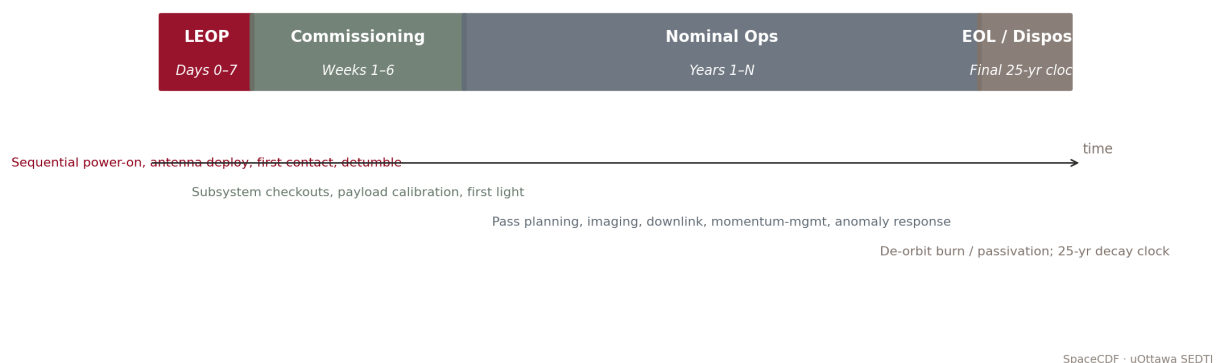

Figure 2.4 — Representative LEO mission timeline. The course designs from Day 1 against this timeline.
- Mission phases (LEOP → commissioning → nominal → disposal) — see Figure 2.4.